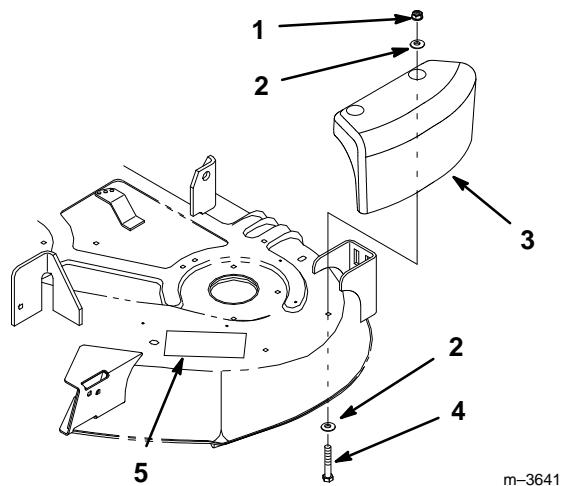

Figure 10
1. Position the mower deck counterweight on the left-hand side of the mower so that it fits snuggly against the side of the mower (Fig. 10).
2. Using a punch in the holes of the counterweight, mark the location for drilling (2) 13/32" holes. Remove the counterweight and drill the holes.
3. Secure the counterweight to the top of the mower deck with (2) 3/8 x 2-1/4 (57 mm) bolts, (4) 3/8" (10 mm) flat washers, and (2) 3/8" locknuts.
4. An extra decal is included with the bagger because the counterweight covers the original decal. Clean the mower deck surface and place this decal on the mower deck near, but not under, the counterweight (Fig. 10).